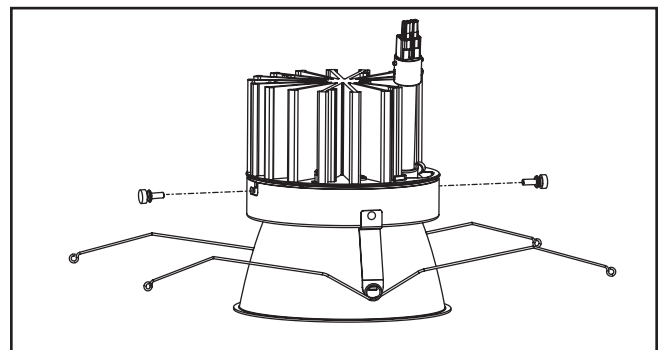

Figure 6.
4. Using provided thumb screws, securely attach lower trim to LED Engine. Align Power Plug from LED Engine with cylinder housing connector and lock together (Figure 6.).